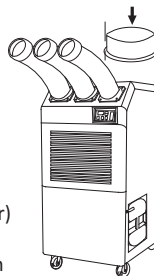

Figure 18
3. Use screws (enclosed inside of box with the top fan exhaust flange) to install the top fan exhaust flange on air conditioner as shown in Figure 18.